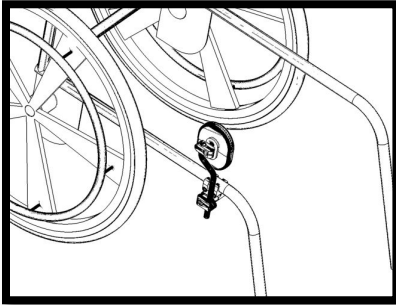
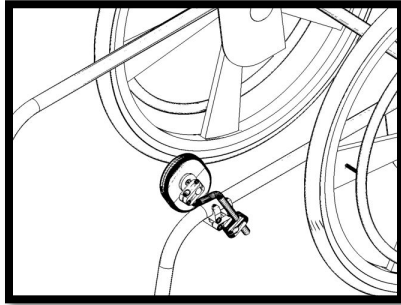

Figure 2.5
Figure 2.6
***Note: The POSAlinc Original Knee Adductor is offered specifically as a "right-" and "left-" side device, but the user can option to mount a right side device onto the left side of the wheelchair and a left side assembly on the right. See Figure 2.6 for an illustration displaying this mounting option. Throughout the rest of this instruction manual, the illustrations will depict a right side device mounted on the right side of a wheelchair.
The figures below show a POSAlinc Original Knee Adductor correctly tube-mounted to a chair. Figure 2.5 shows a right side assembly mounted to the right side of a chair, while Figure 2.6 shows the option of mounting a right side assembly to the left side of the chair.